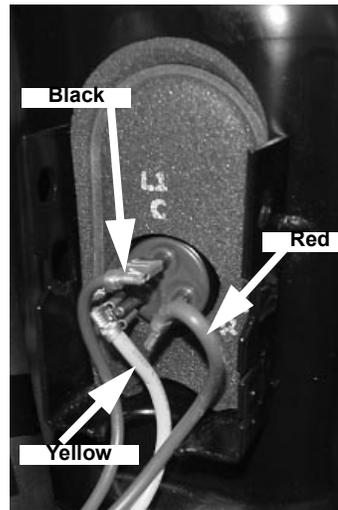

Figure 46.
50. Connect the compressor (Figure 46) and replace the junction box cover.